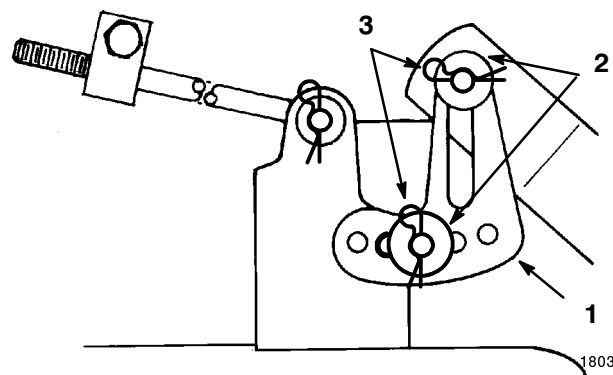

Figure 36
2. Replace the two left side mower leveling brackets (holes) with two slotted leveling brackets (Fig. 36). Secure with existing washers and hair pin cotters (Fig. 36).